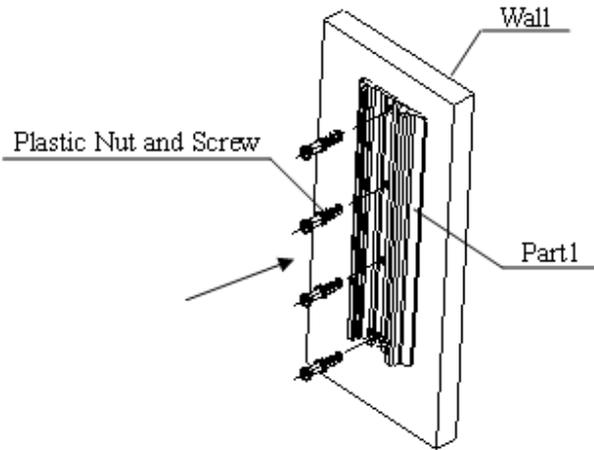

Figure 3-1
3. Knock four screws in the plastic nuts, when tightened; secure the channel (part1) at the desired location of the wall (as shown in Figure 3-1).